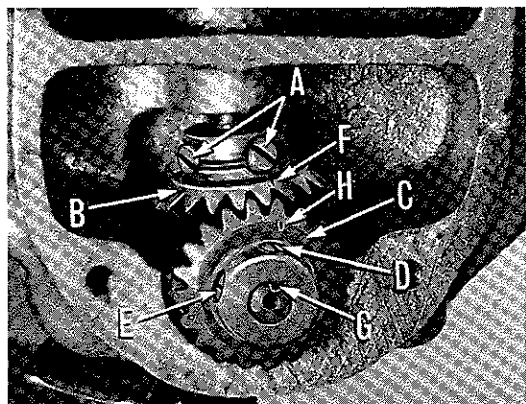
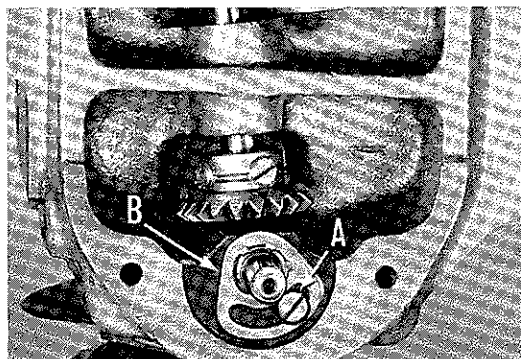

Fig. 5
Fig. 6
Turn the handwheel in operating direction until the needle has reached the forward end of its travel and returned $3/32$ inch. At this position, the point of the hook should be over the center of the needle. To obtain this adjustment, remove hook gear cover on the back of the head to expose the gears (Fig. 5). Loosen screws (A) in gear (B) and turn gear (C) in the required direction to position the point of the hook over the center of the needle. Re-tighten screws (A).
The point of the hook should be set as close to the needle as possible without striking it. To make this adjustment, loosen screws (D and E, Fig. 5) and remove gear (C), exposing hook bushing flange (B, Fig. 6). Loosen screw (A) and rotate the hook bushing flange (B) in the required direction to position the hook point as described above. If the hook bushing flange cannot be turned far enough to secure this setting, remove screw (A) and place it in the alternate hole in the casting to secure more adjustment. Re-tighten screw (A).
Turn handwheel in operating direction until timing mark (F, Fig. 5) on gear (B) appears over the hook shaft. Replace gear (C) so that spot screw (D) aligns with "V" groove (G) in hook shaft and turn screw down lightly. Turn gear (C) and hook shaft until timing line (H) on gear (C) aligns with timing line (F) on gear (B).